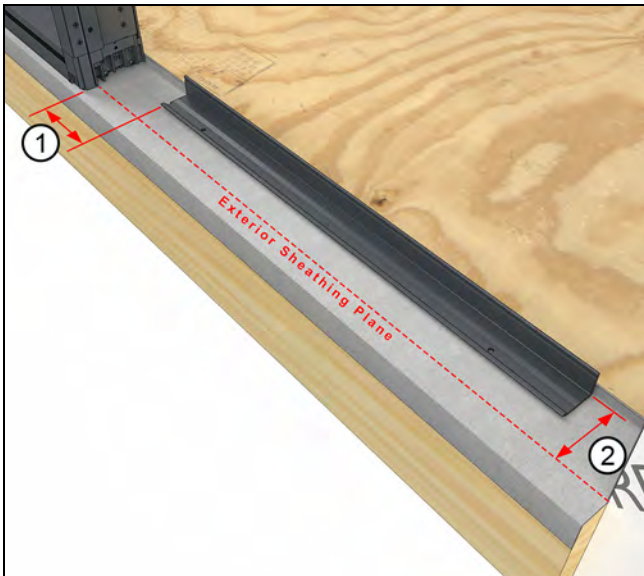

Figure 232
15. If the second unit you are installing is a door, measure 5 15/16 (151) from the first frame and install a sill support bracket. See Figure 232.